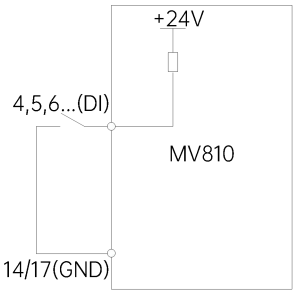

Fig. 4-16 Wiring diagram when the internal +24 V power supply of the drive is used
(2) P09.11=1 (set digital terminal open circuit voltage to 24 V)
① Dry contact mode, shown in Fig. 4-16.